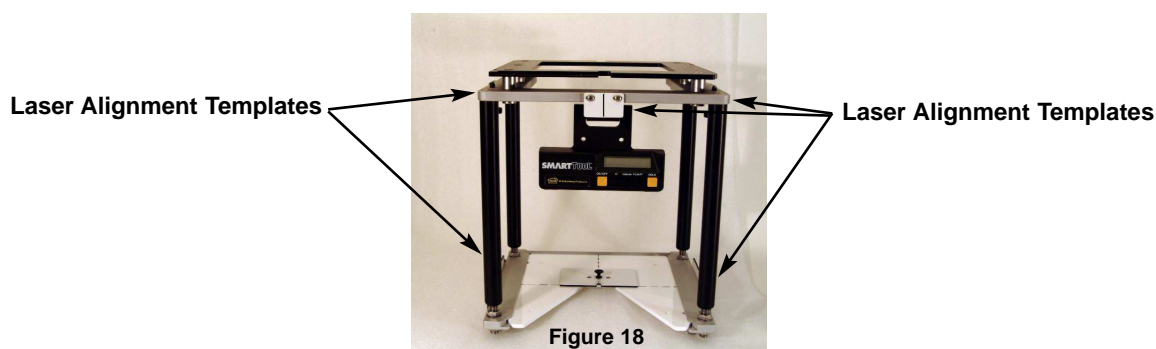

Figure 18
- **Side Laser Alignment:** For checking the alignment of the side lasers, it is important for the gantry to be in the (downward) vertical position and the collimator angle at 0° or 180° (parallel to the longitudinal axis). This orientation must be precisely determined using the built-in digital angle indicator as described in two previous tests. The side laser alignment can then be determined by matching the projection of the lasers to the two laser alignment templates on each side (left and right) of the GARD. (Figure 18)